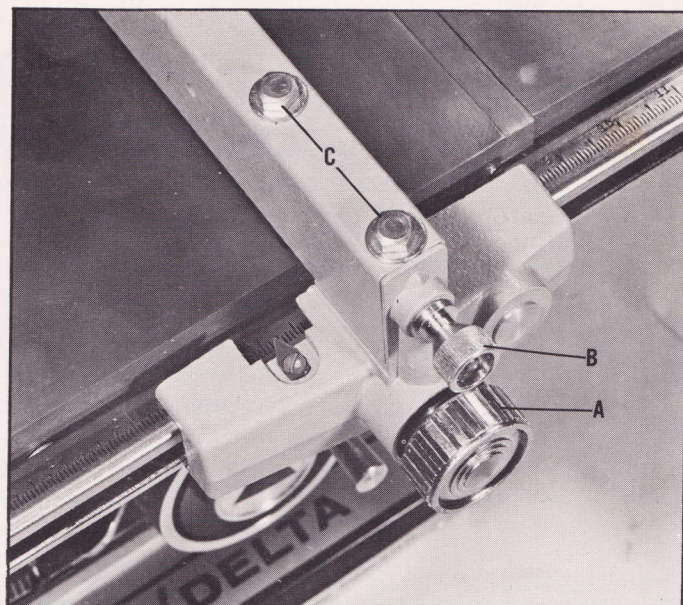

Fig. 8
6. The blade is set parallel to the miter gage slot at the factory. The fence should be adjusted so it is parallel to the miter gage slot. To check the rip fence, set it at one of the miter gage slots. Tighten the front lock knob (A) and rear lock knob (B) Fig. 8. The fence should then line up parallel with the miter gage slot. If an adjustment is necessary loosen the fence adjusting screws (C) and rear lock knob (B) Fig. 8.
With the front lock knob (A) Fig. 8, still tight, move the back end of fence to the right or left lining it up to the miter gage slot. Then tighten the rear locking knob (B) and fence adjusting screws (C) Fig. 8.